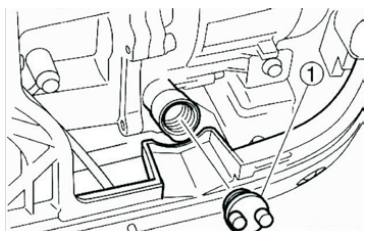

Figure 2
Place the generator on a level surface. **DO NOT** tilt the generator while adding oil. It can cause you to overfill the oil and/or cause the oil to leak into areas in which it is not intended. Remove the oil filler cap ① (seen in figure 2)